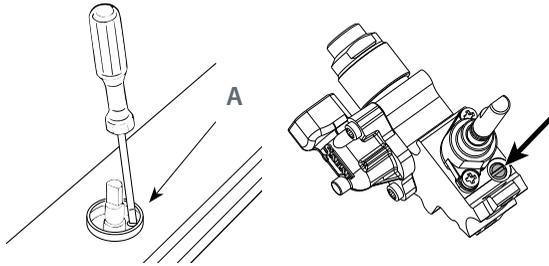

Fig. 9 Minimum burner setting.
- Turn the screw "A" (Fig. 9) to the correct setting with a screwdriver.